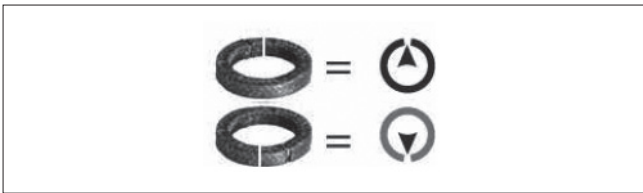

Fig. 14 Gland packing orientation
- Place the new gland packing rings (31) over the stem (21). Install anti-extrusion ring (89) if available on top of the gland packing rings (31).
- When 2 ring sets are used with each ring having cut or slit, then insert the 2nd ring in a manner the cut or slit is 180° apart as compared with first ring. See Figure 14.